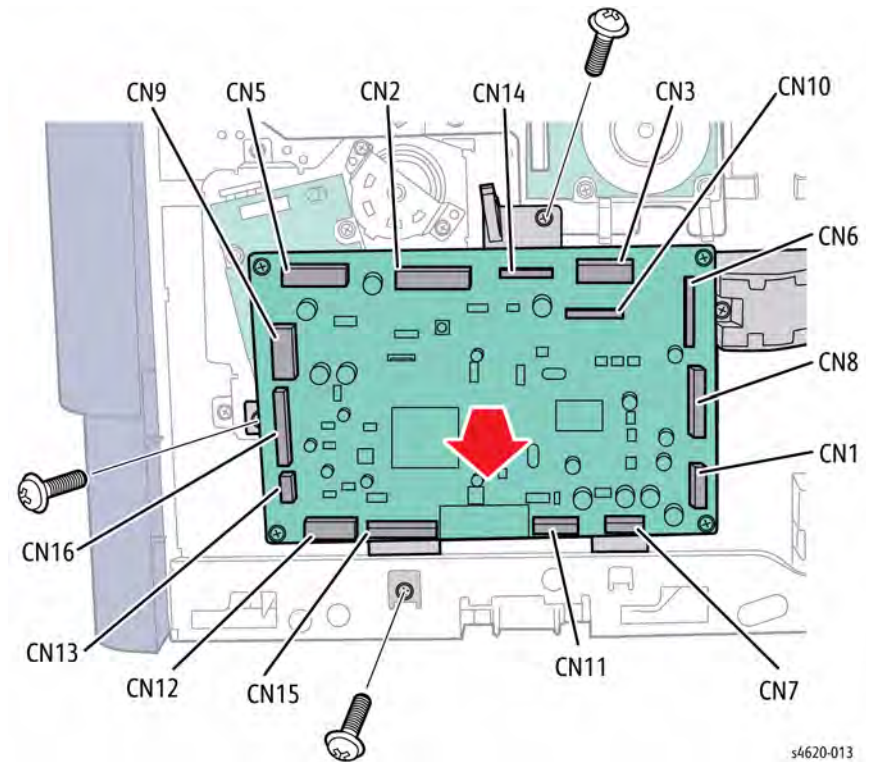

Figure 1 Remove the IP Board and bracket.
8. Lift the assembly up to remove the IP Board and bracket, Figure 1.
After removal of the IP Board, move the MSOK board, located in CN4 at Red arrow in Figure 1, to the new board.